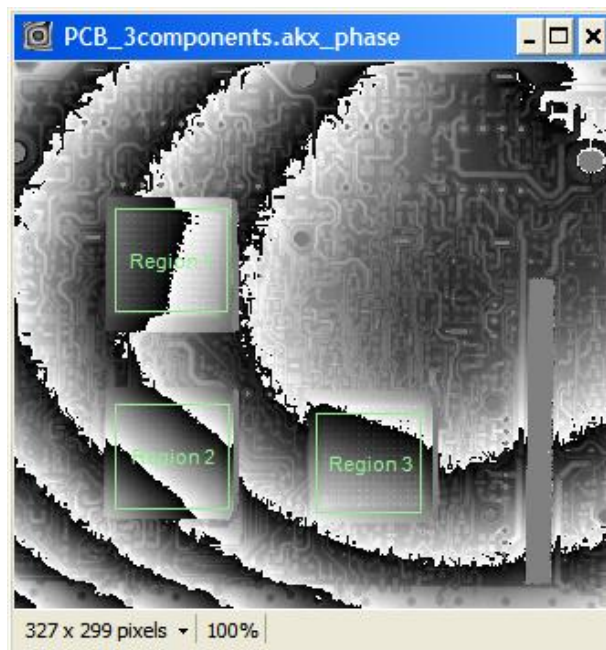

Figure 3.5 Multiple Domains on One Phase Image
4. Additional domains can be added to the partition (**Figure 3.5**) by repeating steps 1 through 3. Domains may overlap.